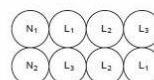

Figure H.52.2 – Special configuration for 6 parallel single-core cables above each other (see 523.7)
- above each other, see Figure H.52.2,